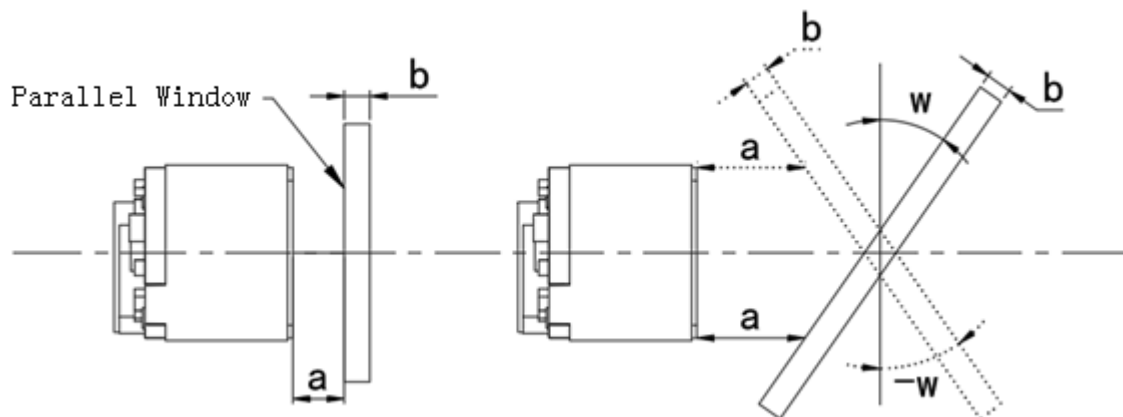

Figure 3-2
**Parallel window** – Primary option for imager engines. The following window distance requirements should be satisfied: The maximum distance is measured from the front of the engine housing to the furthest surface of the window. In order to reach better reading performance, the distance from the front of the engine housing to the furthest surface of the window should not exceed  $a+b$  ( $a+b \leq 3\text{mm}$ ), as shown in **Figure 3-2**.